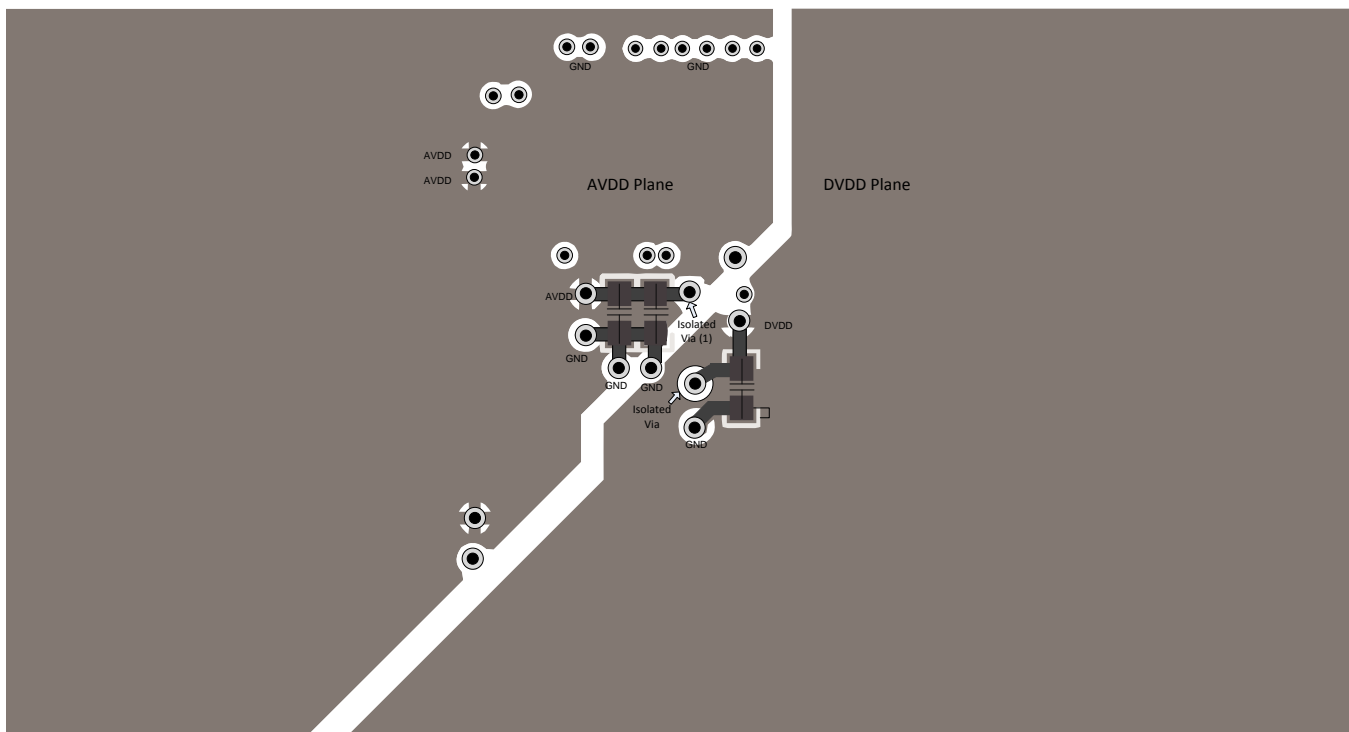

图 91. Bottom Layer Layout
- Power sources to the ADS8598S must be clean and well-bypassed. As a result of dynamic currents during conversion, each AVDD must have a decoupling capacitor to keep the supply voltage stable. Use wide traces or a dedicated analog supply plane to minimize trace inductance and reduce glitches. Using a 1- μ F, X7R-grade, 0603-size ceramic capacitor is recommended in close proximity to each analog (AVDD) supply pin. Bypass capacitors for AVDD pins 1 and 48 are located on the top layer; see 图 90. AVDD supply pins 37 and 38 are connected to bypass capacitors in the bottom layer using an isolated via (1); see 图 91. A separate via (2) is used to connect the bypass capacitor to the AVDD plane.
- For decoupling the digital (DVDD) supply pin, a 1- μ F, X7R-grade, 0603-size ceramic capacitor is recommended. The DVDD bypass capacitor is located in the bottom layer; see 图 91.